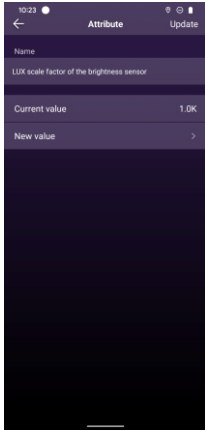
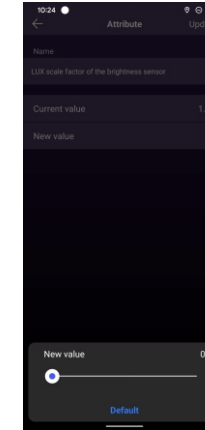

Figure 31
Figure 32
19. The attribute “Lux scale factor of the brightness sensor” is to set the compensation scale factor for the detected brightness in the event that the light sensor is covered and can not fully detect ambient brightness. Tap it to enter setting interface, “Current value” means current compensation scale factor, “New value” is to set a new compensation scale factor, factory default is 1.0K, which means the reported lux value equals to detected lux value times 1. Once set a new value, tap “Update” button at upper right corner to save the setting (as shown in Figure 31 & Figure 32).